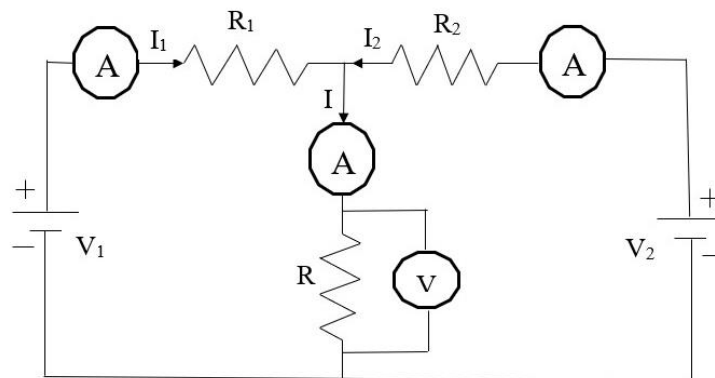

Fig 7.1: Sample circuit
1. Connect the circuit as shown in figure 7.1
2. In the above circuit shown in figure 7.1 calculate current in each branch and voltage across resistor R using Superposition theorem.